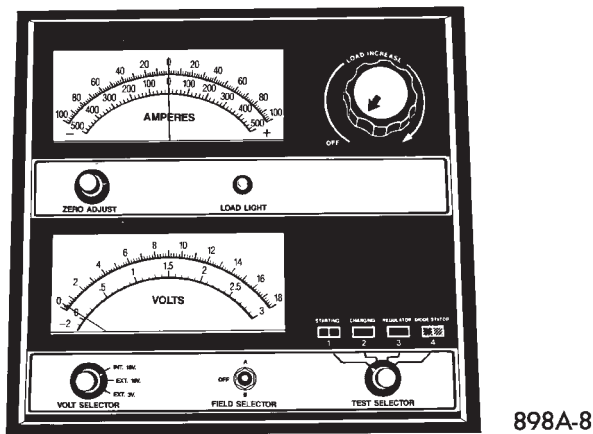
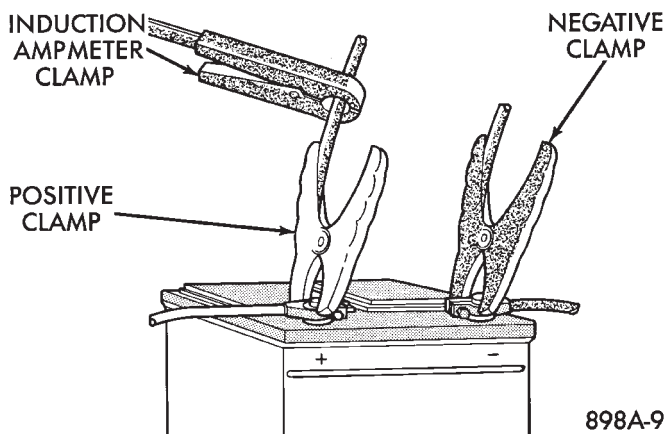

Fig. 9 Volt-Ammeter-Load Tester
Fig. 10 Volt-Ammeter-Load Tester Connections
(1) Remove both battery cables, **NEGATIVE** first. Battery top, cables and posts should be clean. If green dot is not visible in indicator, charge the battery. Refer to Battery Charging Procedures.
(2) Use a suitable Volt/Ammeter/Load tester (Fig. 9) connected to the battery posts (Fig. 10). Check the open circuit voltage of the battery. Voltage should be equal to or greater than 12.4 volts with the green dot visible in test indicator.